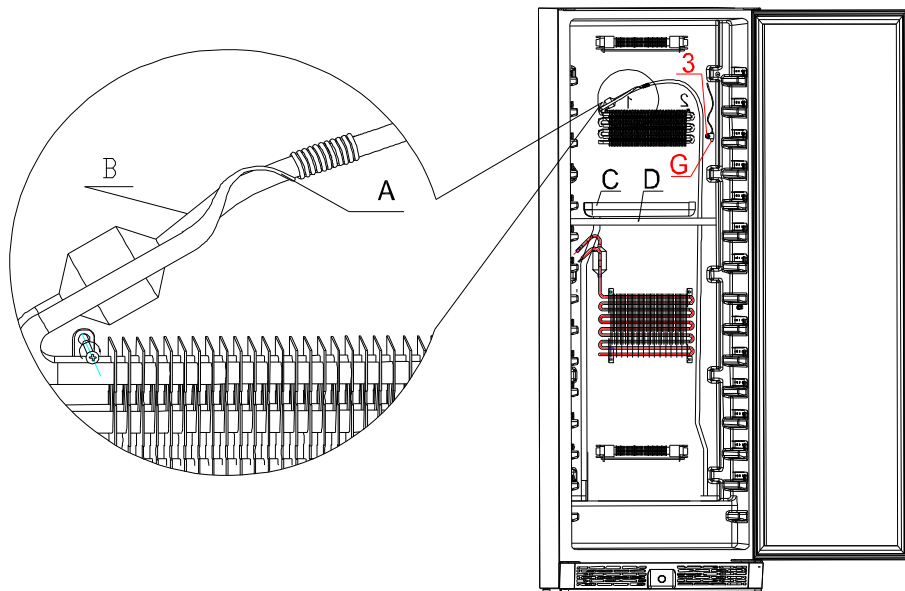
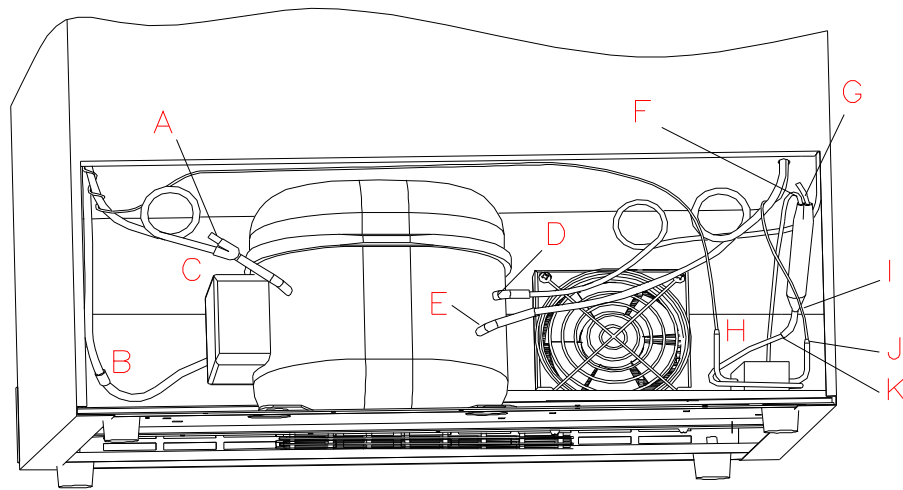

Fig. 3
Fig. 4
Turn on the unit and check there is electricity current flowing to the compressor using a caliper type Amp meter, the current should be within 0.6 to 2 Amps. If the readings are not in this range, turn off and cut off the pipes (See Fig.4 showing D) and the process pipe (See Fig.4 showing A.) from the compressor, then turn the unit on again (**in this case only run the compressor for a few minuets, so as to avoid the compressor absorb moist air**) and recheck the current and if there is pressure at the outlet pipe. If the current reading is still out of range specified above and no pressure from the compressor outlet, replace the whole compressor.
b. Infill 0.8-1MPa nitrogen, and check the welding point around the compressor (→5) (Fig.4) with soap water. If there isn' t any leakage, please take apart the air-duct board(→3、 →4) (Fig.2.1 & Fig.2.2 & Fig.2.3 & Fig.3) and check the welding point around the evaporator(→4)(Fig.3).
1>. Using the vacuum pump form a vacuum in the system, via the joint of the low-pressure process pipe on the compressor(→5) (Fig.4 showing A), the high-pressure pipeline is on the process pipe of the filter(Fig.4 showing G). Apply the vacuum pump for approximately 20 minutes. Until the vacuum is lower than 100Pa. Then solder the compressor process pipe of the filter. Keep the vacuum running while soldering this joint
2>.Fill Cooling system with refrigerant via the process pipe(→5) (Fig.4 showing A). (The refrigerant is R134a. Regarding refrigerant quantity Please refer to the instruction at back label of wine cellar). Then solder the compressor process pipe after the system is charged with refrigerant.
d. The scene after taking away the air-duct board show below. the evaporators are same. (Fig.3)
○ Front side joints location. See (Fig.3)
○ Rear side view of the joints position (Fig.4)
1>. Heat the soldered joint of the capillary (“A” of Fig.3), then remove the capillary from the evaporator and smooth the end with an eraser. (Caution: do not allow any particles into capillary unit)
2>. If the capillary touch the inner cabinet and the air duct board, adjust the position of the capillary and add the incabloc plastic. (→4) (Fig.3)